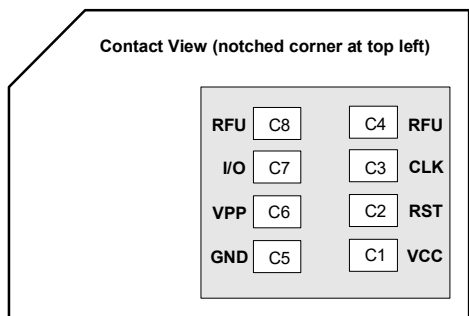

Figure 2-6: SIM Card Contacts (Contact View)
a. See Figure 2-6 on page 24 for SIM card contacts.